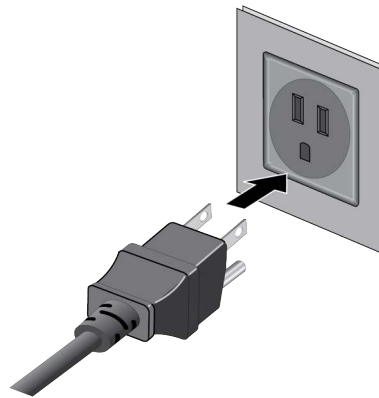

Figure 62. Connecting the Power Cord to an AC Power Outlet
4. Connect the power cord to an appropriate AC power outlet. Refer to Figure 62.